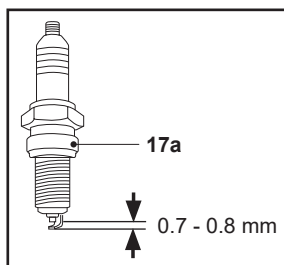

Fig. 27
6. Check the spark plug gap. It should be 0.7-0.8 mm (Fig. 27).